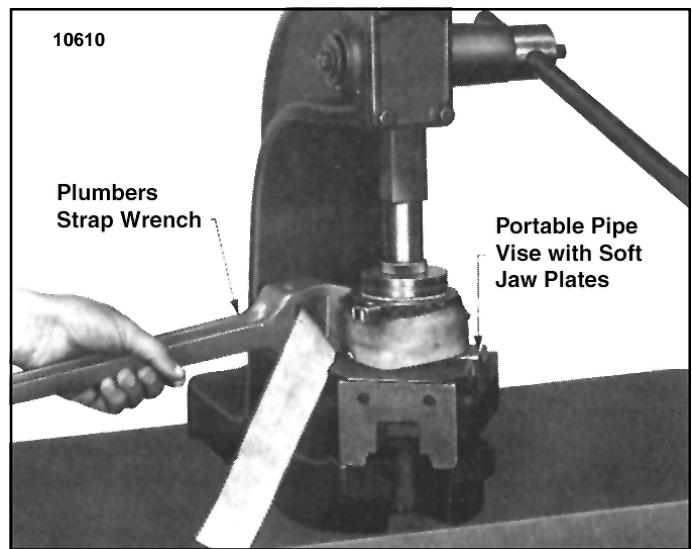

Figure 5-10. Winding Load Brake Gear using a Strap Wrench to set up Load Brake Spring
(4) The brake spring must be pre-loaded at assembly to a torque of 10 to 14 lb.-ft. This is accomplished using a plumber's strap wrench to wind (rotate) load brake gear to set up spring (Figure 5-10) while pressing brake flange into place using an arbor press. Clamp pinion end of shaft into a portable vise to keep brake from rotating in press. Use brass or copper jaw plates on vise to protect pinion gear teeth. Wind gear counterclockwise (viewing brake from flange end) with strap wrench and press down on flange until snap ring groove in shaft is exposed allowing snap ring to be installed. Use extreme care not to over wind spring as yield will result and final spring torque will be reduced. Do not wind gear beyond point necessary to install snap ring in groove.